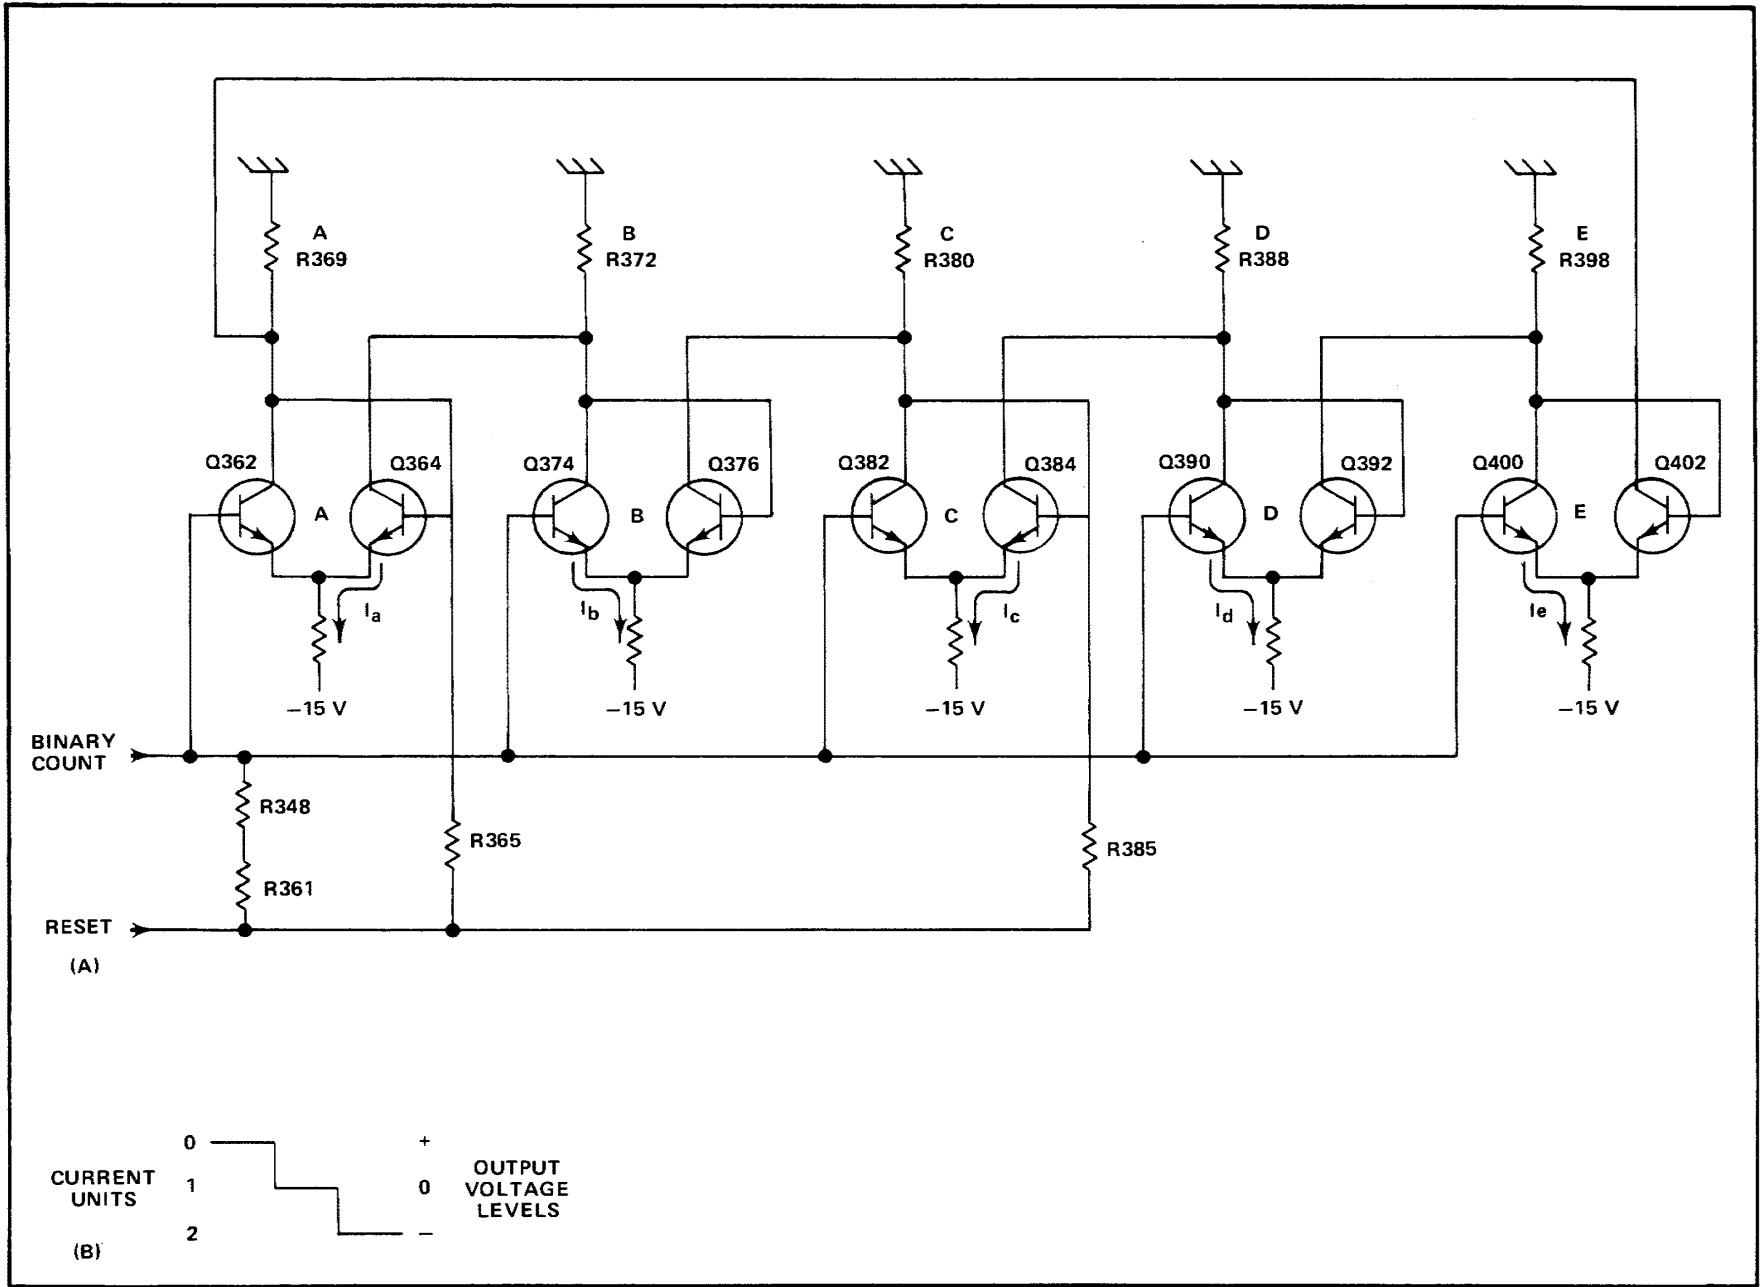

Fig. 3-6. (A) Quinary Counter simplified schematic diagram. (B) Multivibrator current units/output voltage levels chart.
A simplified diagram of the Quinary Counter is shown in Fig. 3-6(A). Each multi is made up of two transistors. The mults are identified in Fig. 3-6(A) as multi A, Q362-Q364; B, Q374-Q376; C, Q382-Q384; D, Q390-Q392; and E, Q400-Q402. The output load resistor is shown above the left transistor of each multi. The left transistor in each multi receives the Binary Count input.
In each multi, the emitter-resistor current (e.g., I_a) will flow through the transistor which has the more positive base level. The current through a multi load resistor is determined by the state of the corresponding multi and the preceding one. Therefore, the load resistor current can be at one of three levels; and, this will result in one of three voltage levels dropped across the load resistor. For example, the voltage dropped across load resistor B may be due to one current unit (I_a or I_b), two current units ($I_a + I_b$), or zero. The voltage levels resulting from zero, one, and two current units through a load resistor are represented in Fig. 3-6(B); and, are labelled +, 0, and - respectively.
The reset, or zero-count, state of each multi is shown in Fig. 3-6(A) by the direction of the arrow representing emitter-resistor current. The resultant voltage dropped across each load resistor is A, +; B, -; C, +; D, -; and E, 0. The multi output voltage is applied to the base of the right transistor through a zener diode. The zener diode lowers the base voltage level; however, the relative voltage level between the right transistor bases remains the same.